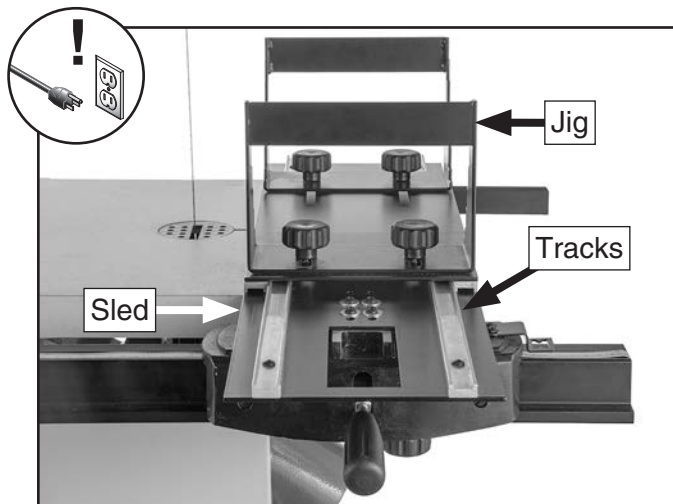

Figure 1. Crosscut jig slid onto bandsaw sled.
3. Align tracks of crosscut jig with tracks of bandsaw sled, then slide jig onto sled (see **Figure 1**).